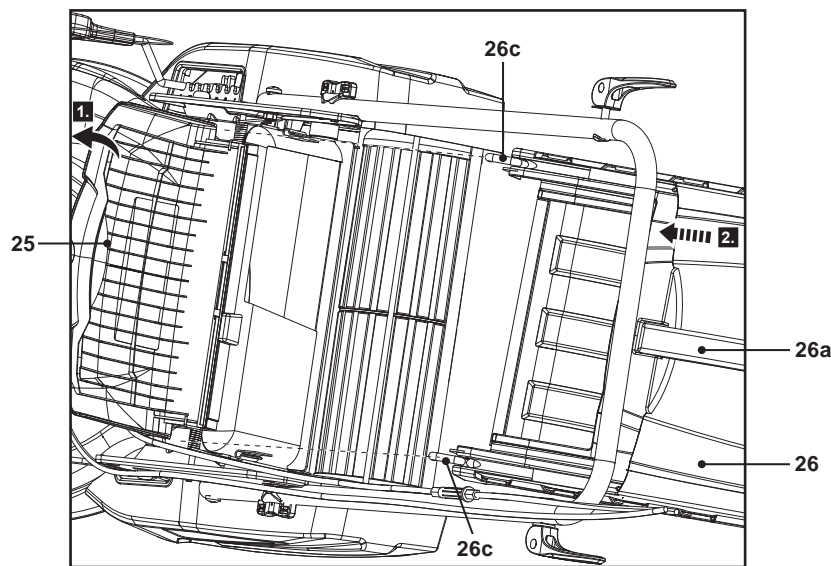

Fig. 6
4. Open the rear deflector guard (25) and hold it in position (Fig. 6, step 1).
6. Align the hooks (26c) with the spring rod and hang the grass catcher onto it (Fig. 6, step 2).
7. Carefully release the rear deflector guard (25) afterwards.